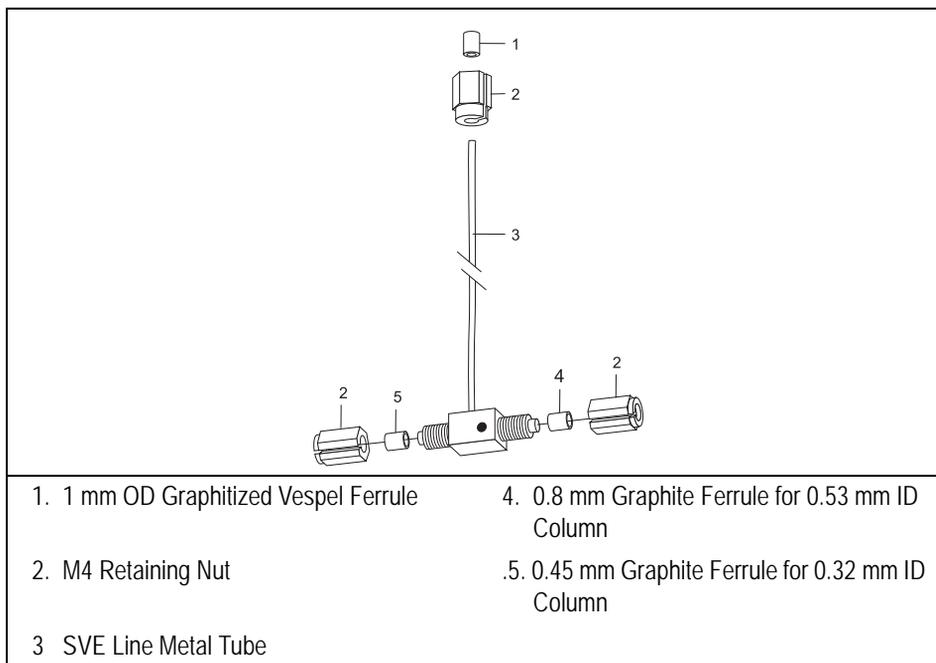

Figure 14-5. Tee Connection Assembly
- tee connector with M4 column retaining nuts and graphite ferrules, as shown in Figure 14-5